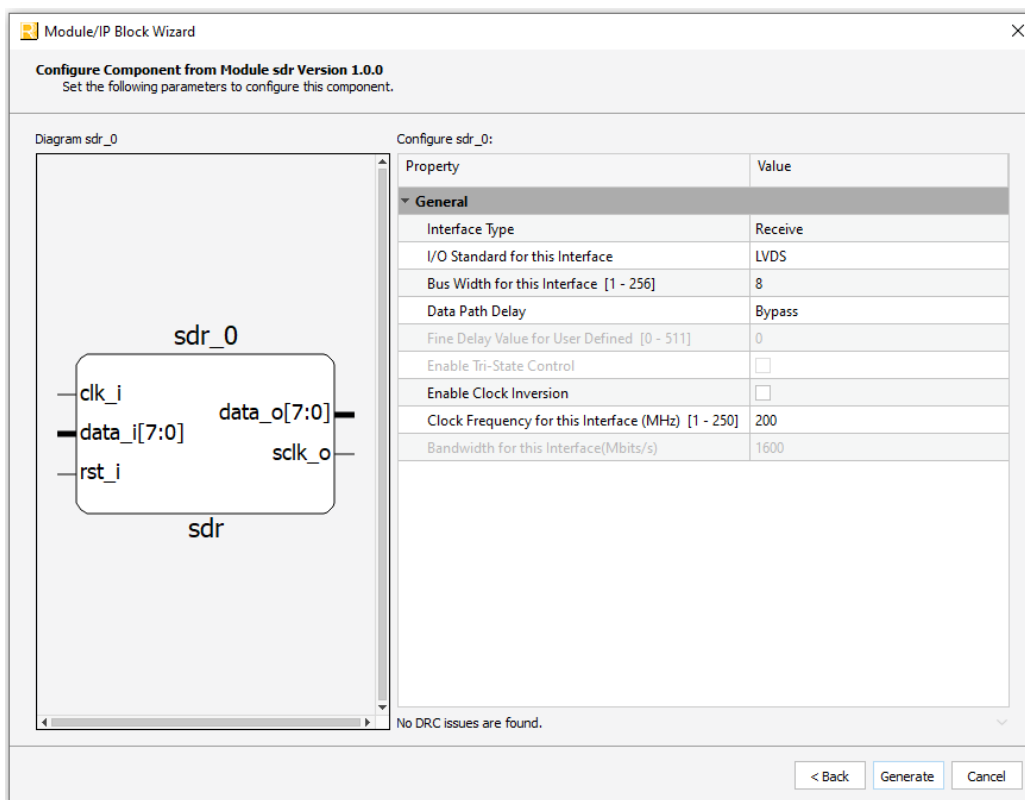

Figure 3.2. Configure Block of SDR I/O Module
- In the module's dialog box of the **Module/IP Block Wizard** window, customize the selected SDR I/O module using drop-down menus and check boxes. As a sample configuration, see Figure 3.2. For configuration options, see the Attribute Summary section.